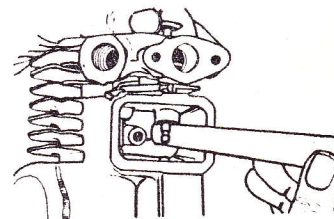

Fig. 2. Removing Burr
2. After removing valve spring retainer and valve spring, remove any burr that may be on valve stem with file (this is only necessary when engine has operated for a long period of time). (Fig. 2.)